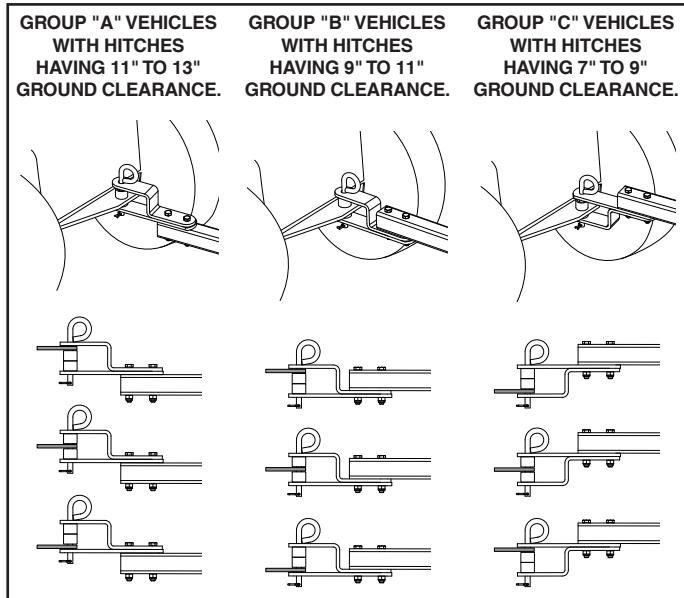

FIGURE 19
**IMPORTANT:** To obtain the best performance from your sweeper, arrange the spacers so that the sweeper bag is approximately level with the ground and approximately 6" to 8" off the ground as shown in figure 19.